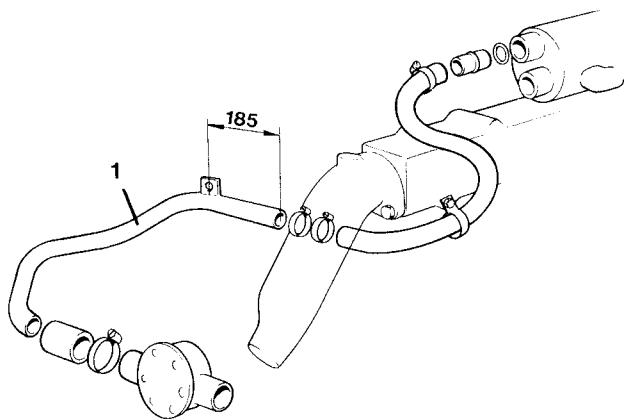

Fig. 2
3. Unscrew the existing screw (1). Loosen the delivery pipe clamp and rotate it 180°. Fit the cooling water tube (2) with a rubber ring (3) at each end of the tube. Tighten the screw (1). Unscrew the second and third uppermost screws from the front on the exhaust manifold. Fit the heat exchanger (4) with the screws (3) and the flat washers (6).
4. Place the gasket (7) in the hose connection (8) and screw tight. Fit the connecting pipe (9) and a rubber ring (3) to the heat exchanger and connect the hose (10) using two hose clamps (11).
5. Place the spacers (12) between the cylinder block and the bracket (13) and fit the bracket as high as possible using the screws (14) and washers (15). Fit the expansion vessel (16) with the clamp (17) screw (18) and washer (19). Screw the hose couplings (20) to the heat exchanger and water pump and connect the hoses (21). In order to facilitate checking the coolant level the expansion vessel can be fitted in a location outside the engine compartment. The lower edge of the vessel must, however, not be fitted lower than the highest point of the engine.
6. Remove the existing thermostat housing the thermostat. Fit the pipe (22) with a rubber ring (3) at each end. Then fit the thermostat housing (23), the new thermostat, the new gasket with a screw (24) and washer (25).
7. Fit the nipple (36) in the exhaust manifold. Loosen the generator belt tensioner and remove the V-belt. Also remove the starter motor.
8. Remove the existing screw from the front lower section of the exhaust manifold and fit the pipe (26) with a rubber ring (3) at each end. Fit the coupling piece (27) with a spacer ring (28), gasket (29) and Banjo screw (30). Screw the plug (31) into the connecting piece.
9. Fit the pipe (32), connect it to the expansion vessel with a hose (33) and hose clamps (11). The pipe is attached to the block with a screw (34) and a washer (35).
10. Fit the pipes (37) and (38) with their one end in their respective positions. Fit the circulation pump (39) and the starter motor with the two longer screws (40) and with two washers (41) between the brackets. Fit the V-belt. Replace the temperature sender with the sender in the kit.
13. On engines with a lower engine number than 17973 the existing pipe (1) should be cut and connected to the heat exchanger as shown in fig. 2.
3. Die vorhandene Schraube (1) lösen. Druckrohrschelle lösen und 180° drehen. Kühlwasserrohr (2) mit einem Gummiring (3) an jedem Ende des Rohres einbauen. Schraube (1) festziehen. Die zweite und dritte obere Schraube von vorn gesehen am Auspuffrohr lösen. Wärmetauscher (4) mit den Schrauben (5) und den Unterlegscheiben (6) einbauen.
4. Dichtung (7) im Schlauchanschluß (8) anbringen und festschrauben. Anschlußrohr (9) und einen Gummiring (3) im Wärmetauscher einbauen und den Schlauch (10) mit zwei Schlauchschellen (11) anschließen.
5. Distanzscheiben (12) zwischen Zylinderblock und Träger (13) anbringen und den Träger möglichst hoch mit Schrauben (14) und Scheiben (15) einbauen. Ausgleichbehälter (16) mit Klammer (17), Schraube (18) und Scheibe (19) einbauen. Schlauchkupplung (20) in den Wärmetauscher und die Wasserpumpe einschrauben, die Schläuche (21) anschließen. (Um die Prüfung des Kühlflüssigkeitsstandes zu erleichtern, kann der Ausgleichbehälter auch außerhalb des Motorraumes eingebaut werden. Die Unterkante des Behälters darf jedoch nicht niedriger liegen als der höchste Punkt des Motors.)
6. Vorhandenes Thermostatgehäuse und Thermostat ausbauen. Rohr (22) mit einem Gummiring (3) an jedem Ende einbauen. Danach Thermostatgehäuse (23), den neuen Thermostat und die neue Dichtung mit Schraube (24) und Scheibe (25) einbauen.
7. Nippel (36) im Auspuffrohr einbauen. Spanneisen des Generators lösen und den Keilriemen ausbauen. Auch den Anlasser ausbauen.
8. Die vorhandene Schraube vom vorderen unteren Teil des Auspuffrohrs ausbauen und das Rohr (26) mit einem Gummiring (3) in jedem Ende einbauen. Verbindungsstück (27) mit Distanzring (28), Dichtung (29) und Hohlschraube (30) einbauen. Stopfen (31) in das Verbindungsstück einschrauben.
9. Rohr (32) einbauen und an den Ausgleichbehälter mit Schlauch (33) und Schlauchschellen (11) anschließen. Das Rohr wird mit Schraube (34) und Scheibe (35) am Motorblock befestigt.
10. Rohre (37 und 38) mit ihren Enden in den jeweiligen Sitzen einbauen. Umwälzpumpe (39) und den Anlasser mit den beiden längeren Schrauben (40) und mit zwei Scheiben (41) zwischen den Trägern einbauen. Keilriemen einbauen. Temperaturgeber gegen den im Satz enthaltenen Geber auswechseln.
13. Bei Motoren mit niedrigerer Motornummer als 17973 ist das vorhandene Rohr abzuschneiden und an den Wärmetauscher anzuschließen, siehe Abb. 2.
3. Dévisser la vis (1), défaire l'anneau de fixation du tuyau de refoulement et le tourner de 180°. Monter le tuyau d'eau de refroidissement (2) avec une rondelle en caoutchouc (3) à chaque extrémité du tuyau. Revisser la vis (1). Dévisser la seconde et la troisième vis supérieure sur le conduit d'échappement vu de proue. Monter l'échangeur de chaleur (4) à l'aide des vis (5) et des rondelles plates (6).
4. Mettre la garniture d'étanchéité (7) sur le raccord de flexible (8) et visser. Monter le tube de raccordement (9) et une rondelle en caoutchouc (3) sur l'échangeur de chaleur et raccorder le flexible (10) et le fixer à l'aide de deux colliers de serrage (11).
5. Placer les rondelles d'écartement (12) entre le bloc-cylindres et le support (13) et positionner le support le plus haut possible à l'aide des vis (14) et des rondelles (15). Monter le vase d'expansion (16) à l'aide de l'attache (17) de la vis (18) et de la rondelle (19). Visser les raccords de flexibles (20) sur l'échangeur de chaleur et la pompe à eau, raccorder les flexibles (21). (Pour faciliter la vérification du niveau de liquide de refroidissement, le vase d'expansion peut être monté à l'extérieur de la cale moteur. La partie inférieure du vase d'expansion ne doit néanmoins pas être placée à un niveau moins élevé que le point le plus haut du moteur.)
6. Démonter le boîtier de thermostat se trouvant là et le thermostat. Monter le tuyau (22) avec une rondelle en caoutchouc (3) à chaque extrémité. Monter ensuite le boîtier de thermostat (23), le nouveau thermostat et le joint d'étanchéité à l'aide de la vis (24) et de la rondelle (25).
7. Monter le raccord (36) sur le conduit d'échappement. Démonter la bride de serrage de l'alternateur et démonter la courroie. Démonter aussi le démarreur.
8. Démonter la vis se trouvant sur la partie inférieure du conduit d'échappement et monter le tuyau (26) avec une rondelle en caoutchouc (3) à chaque extrémité. Monter la pièce de raccordement (27) avec la bague d'écartement (28), la rondelle d'étanchéité (29) et la vis creuse (30). Visser en place le bouchon (31) sur la pièce de raccordement.
9. Monter le tuyau (32), raccorder au vase d'expansion à l'aide du tube (33) et des colliers de serrage (11). Le tuyau est assujetti du bloc à l'aide de la vis (34) et de la rondelle (35).
10. Monter les tuyaux (37) et (38) avec chacune de leurs extrémités dans son emplacement respectif. Monter la pompe de circulation (39) et le démarreur à l'aide des deux vis (40) plus longues et des deux rondelles (41) placées entre les supports. Monter la courroie. Echanger le thermo-contact contre celui fourni dans le kit.
13. Sur les moteurs aux numéros antérieurs à 17973, le tuyau (1) devra être coupé et raccordé à l'échangeur de chaleur d'après la figure 2.
3. Svitare la vite (1), sbloccare la fascetta del tubo di mandata e ruotarlo di 180°. Montare il tubo dell'acqua di raffreddamento (2), con un anello di gomma (3) su ogni estremità del tubo. Serrare la vite (1). Sbloccare la seconda e la terza vite superiore del tubo di scarico, visto dalla prua. Montare lo scambiatore di calore (4) impiegando le viti (5) e le rondelle piatte (6).
4. Posizionare la guarnizione (7) sul raccordo del flessibile (8) e fissare il raccordo. Montare il tubo di raccordo (9) e un anello di gomma (3) sullo scambiatore di calore e collegare il tubo flessibile (10) con due fascette (11).
5. Collocare i distanziali (12) tra il monoblocco ed il supporto (13) e posizionare quest'ultimo il più in alto possibile mediante le viti (14) e le rondelle (15). Montare il serbatoio di espansione (16) con la fascetta (17), la vite (18) e la rondella (19). Avvitare i raccordi dei tubi flessibili (20) nello scambiatore di calore e nella pompa dell'acqua i collegare quindi i tubi flessibili (21). Per facilitare il controllo del livello del refrigerante, il serbatoio di espansione può essere montato all'esterno del vano motore. In tal caso però, tener presente che il bordo inferiore del serbatoio di espansione non deve risultare al di sotto del punto più alto del motore.